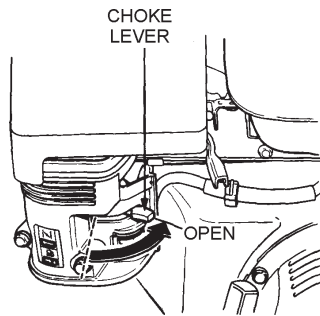

Figure 15. Choke Lever (Open)
- If the engine has started, slowly return the choke lever (Figure 15) to the “OPEN” position. If the engine has not started repeat steps 1 through 6.